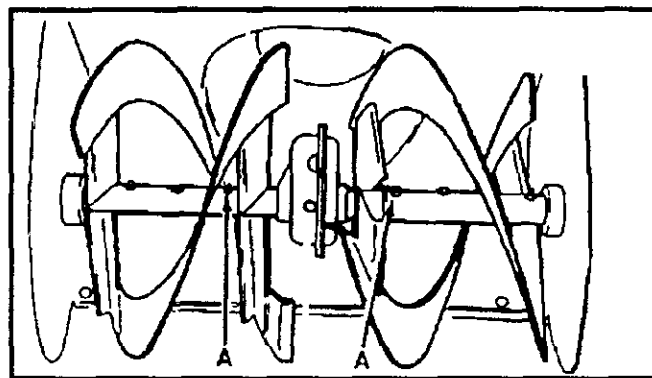

FIG. 2
- Auger Shaft - Using a hand grease gun, lubricate the auger shaft zerk fittings (See A, FIG. 2) every ten (10) operating hours. Each time a shear bolt is replaced (See To Replace Auger Shear Bolt paragraph in the Service & Adjustments section of this manual), the auger shaft **MUST** be greased.